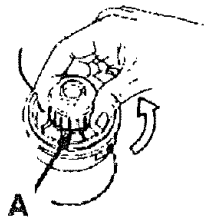

Fig. 1
1. Stop engine. Hold stringhead and unscrew spool retainer (A). Turn counterclockwise, (see Fig. 1).